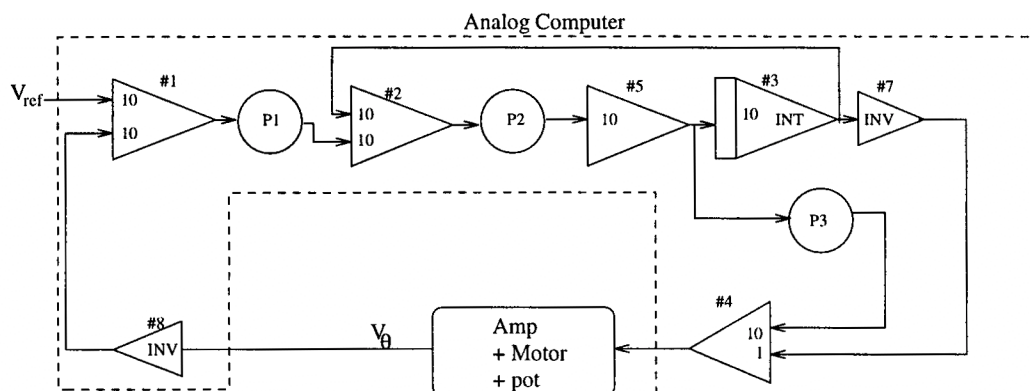

Figure 6.2. Wiring diagram for motor with lead controller
- (e) The lead controllers will be implemented using the wiring diagram shown in Figure 6.2. Analyze this diagram and show that the potentiometer settings P_1 , P_2 and P_3 are related to the controller parameters K_c , τ_z , and τ_p by the set of Equations (6.2) below.
Connect the waveform generator to amplifier #1 on the analog computer as shown in Figure 6.2.
- Wire the analog computer as shown in Figure 6.2. The output of the amplifier #4 on the analog computer should be connected to the **Input Amplifier** on the patch panel. To do this, take one end of the grey cable (the one with three leads on each end) and connect the red lead to the analog computer output. Connect the black and white leads to the analog computer ground. Take the other end of the grey cable and connect the red lead to Ref+ of the **Input Amplifier**. Connect the black and white leads to the black and white jacks of the Input Amplifier. Connect the motor to the **Output Amplifier** by using the other grey cable. Short out the unused amplifier #6.